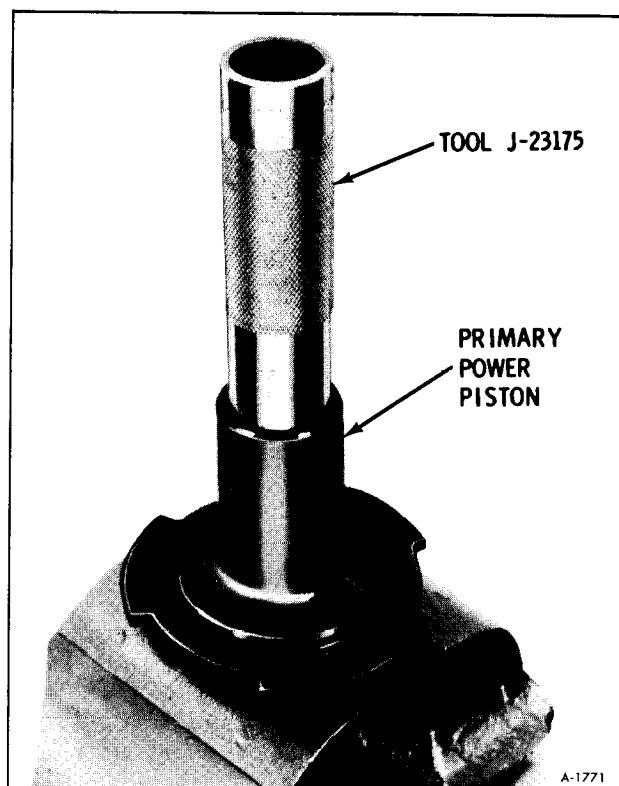
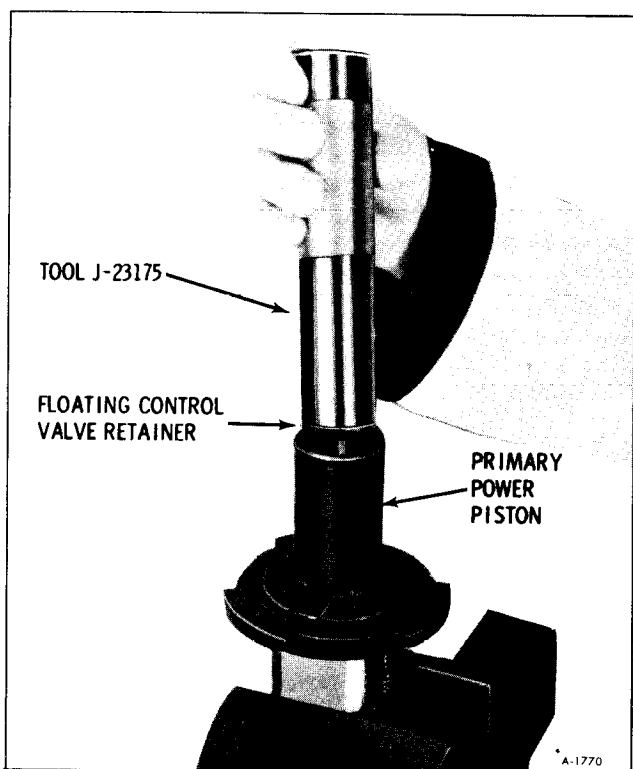

Figure 47-Retainer Ring Seated
Figure 46-Installing Retainer Ring
5. Place lip of retainer on the O.D. of Tool J-23175. (figure 46) Manually press the retainer until seated in the primary power piston tube. (figure 47)